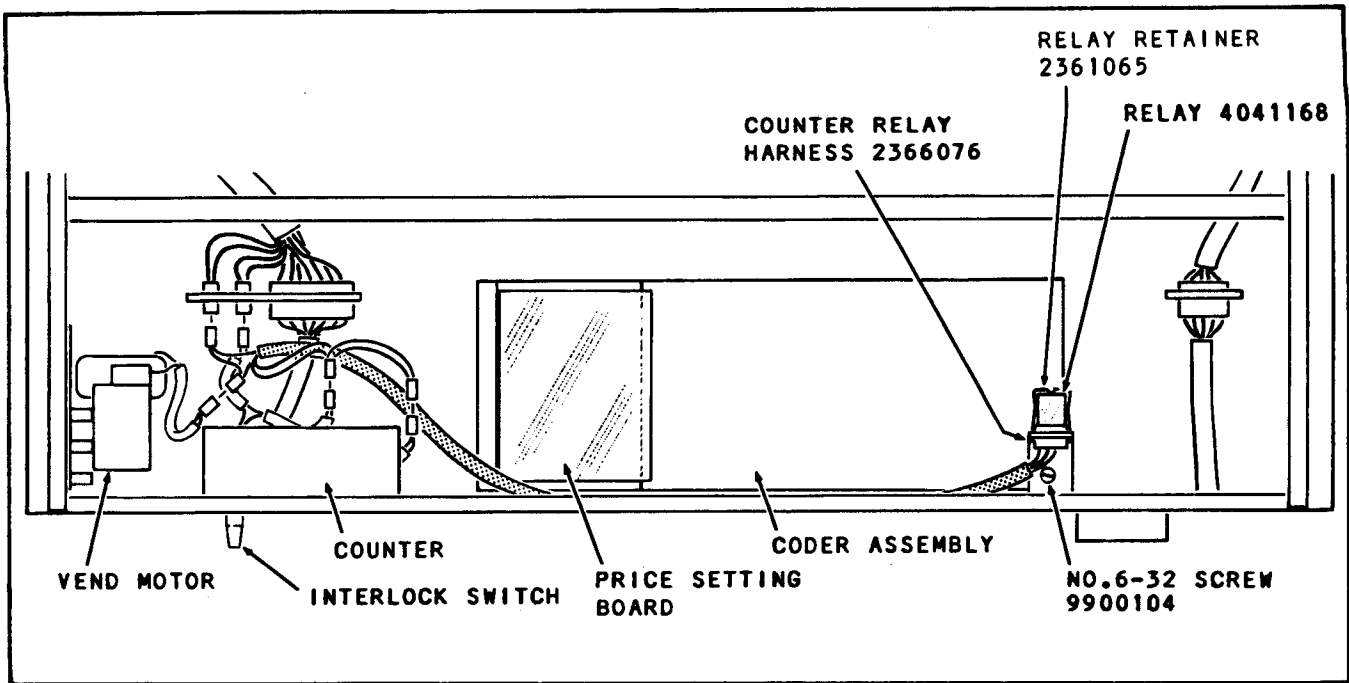

FIGURE 4
- d. Connect the Counter Relay Harness to the Counter Harness and the Mechanism Harness using the plug and receptacle with the black wires, see Figure 4.
- f. Connect the Counter Relay Harness to the Vend Motor and the Mechanism Harness using the plug and receptacle with the blue wires, see Figure 4.